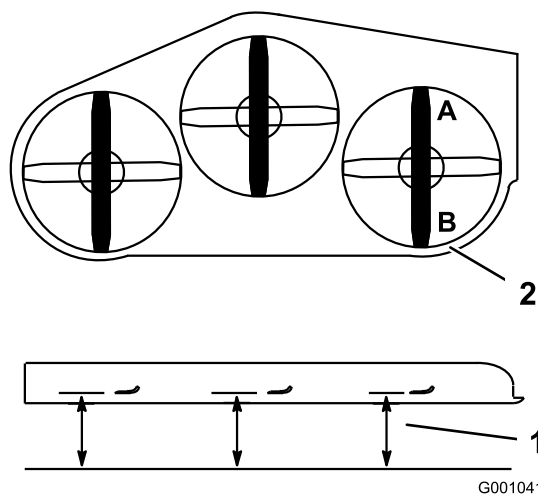

Figure 74
2. Position 1 blade front-to-rear. Measure at **A** and **B** locations from a level surface to the cutting edge of the blade tips (Figure 74).